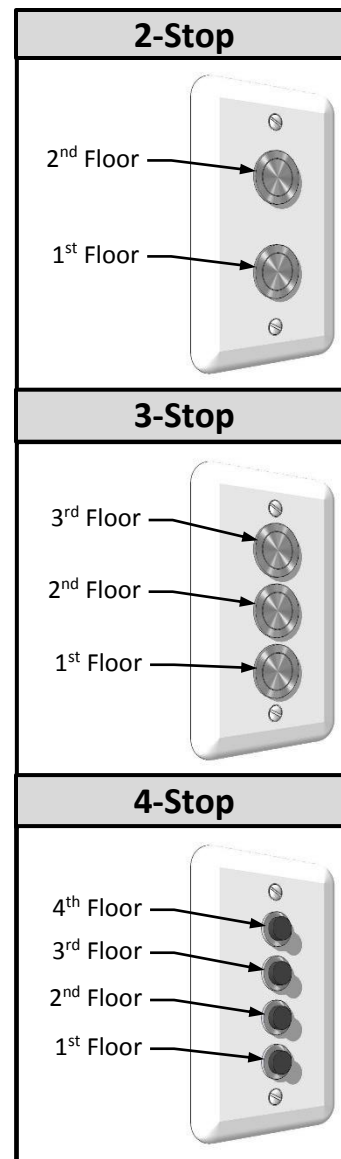

Figure 3
- 1 Press the call/send button that corresponds with the floor you are standing on to call the dumbwaiter car to you. **(see Figure 3)**